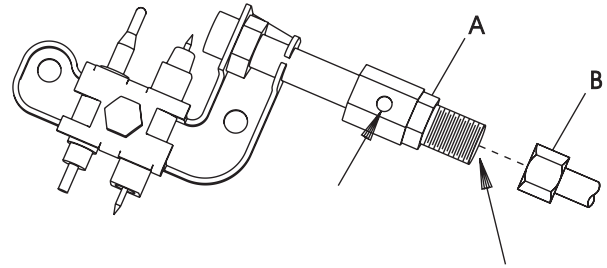

Figure 12
Oxygen Depletion Sensor Pilot (Figure 12)
2. Apply air pressure through the holes in the pilot indicated by the arrows in Figure 12. This will blow out foreign materials such as dust, lint and spider webs.
5. Disconnect pilot tubing from pilot (see Figure 12, Page 12). Grasp nut A with a wrench when removing nut B with a second wrench.
- c. Pilot is blocked from spider web or dirt - clean pilot, see Figure 12, Page 12.
- a. Pilot is blocked - clean pilot, see Figure 12, Page 12.
- d. Pilot flame not surrounding thermocouple - clean pilot, see Figure 12, Page 12.